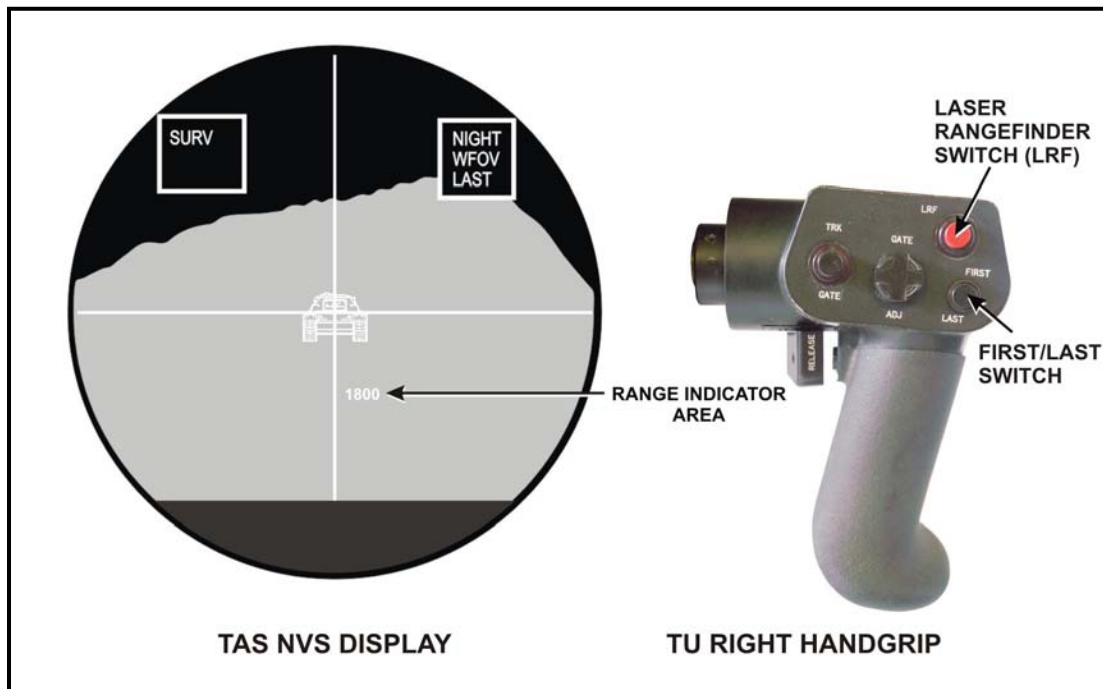

Figure 2-17. LRF switch and TAS display.
on the target to get this range. The range return from the target is shown in the range indicator area (Figure 2-17).
(4) **FIRST/LAST Switch.** The FIRST/LAST switch is a push-button switch that provides range verification in conjunction with use of the LRF (Figure 2-17). Selection of FIRST displays range from the nearest object in the LRF beam path. Selection of LAST (default setting) displays range from the most distant object in the LRF beam path. The FIRST/LAST switch will operate in either daysight or NVS.